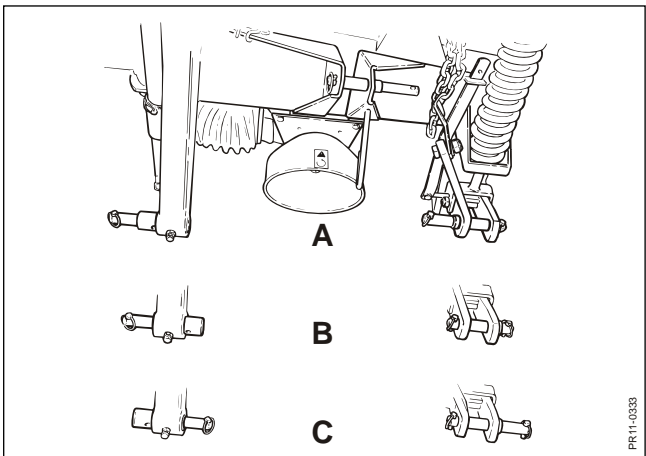

Fig. 2-5
- Fig. 2-5 There are 3 settings (**A**, **B** and **C**) of the pins on the headstock corresponding to the following track width sizes:
The adjustment of the pins are made by loosening and adjusting the fixed pin position and adjusting the loose pin position according to fig. 2-5.